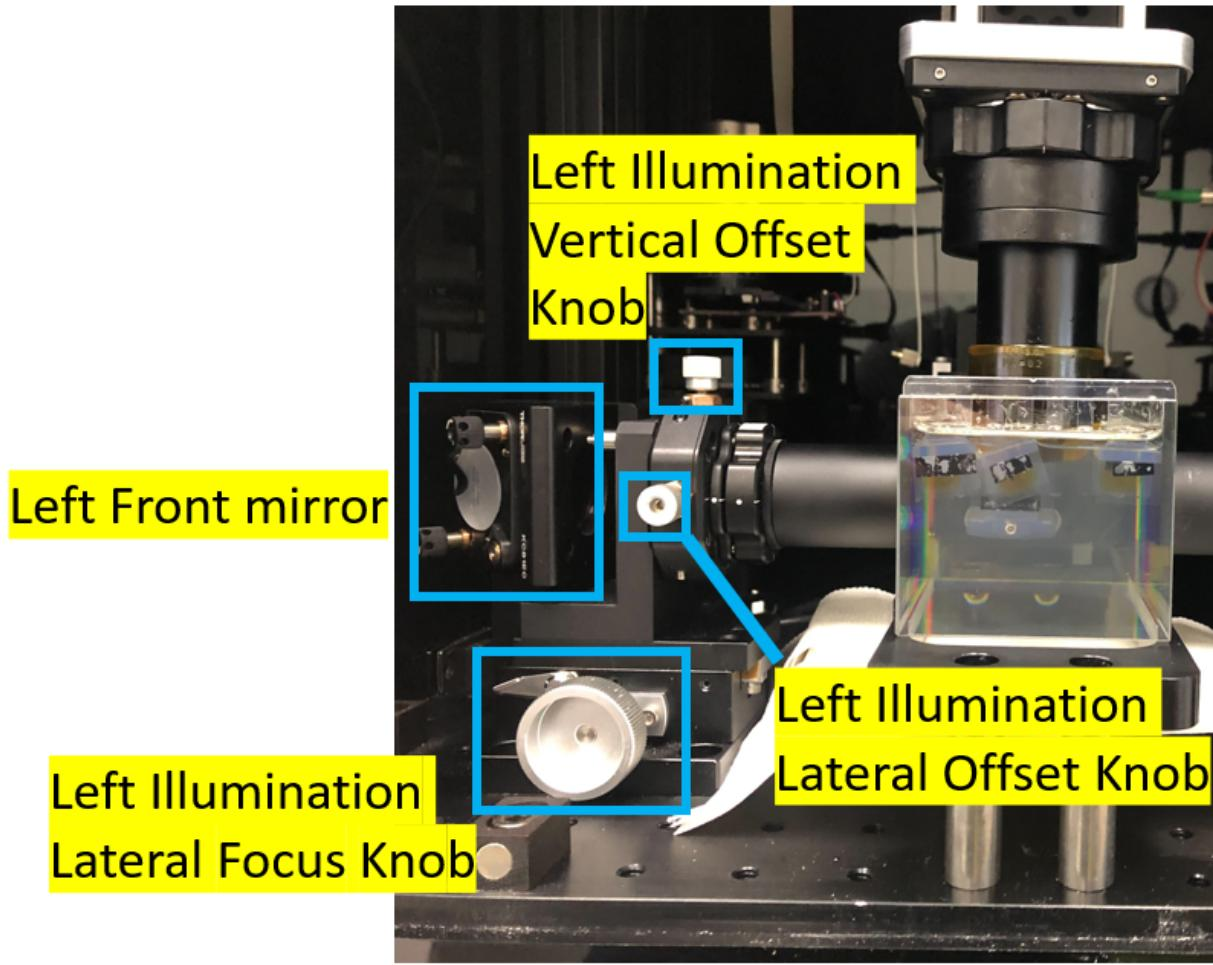

Figure 3. Locations of knobs on the left illumination used to align the laser.
- i. Use the **Left illumination focus knob** and **Left illumination lateral offset knob** (Figure 3) and the **detection objective focus** to align and center the beam. In conjunction with the preview window, you can maximize the mean Kurtosis plot in the ***Illumination Focus Wizard*** to determine quality of focus. Figure 4 shows an example of an unaligned laser line, which is unfocused and its kurtosis is low. Figure 5 shows the aligned laser line. (**Typically a well focused laser line has Kurtosis values greater than 40 on average in EasyIndex with a 3.6x objective**).